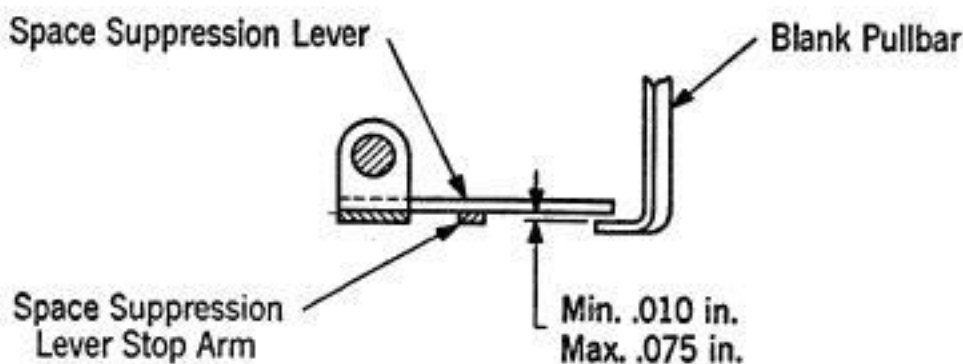

FIG. 1
2.03 Clearance between lower edge of space suppression lever and upper edge of blank pull bar projection shall be Min. .010", Max. .075", when the typing unit is in its stop position (pull bars held away from code bars) with the carriage in its unshifted position. See Fig. 1.